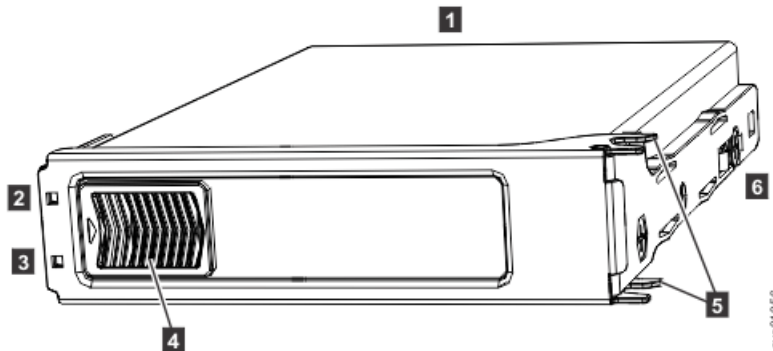

Figure 57. LEDs on a drive assembly
Figure 57 on page 67 shows the components of a drive assembly. Each drive has an online indicator (2) and fault indicator (3).